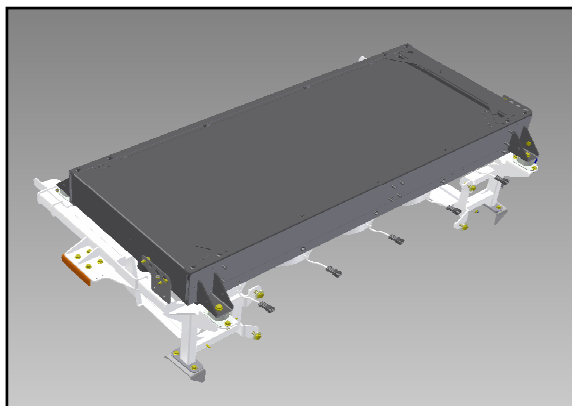

Figure 16 - Typical View of Radiator assembly
- 1.36. Install the radiator assembly into the vehicle (see Figure 16).